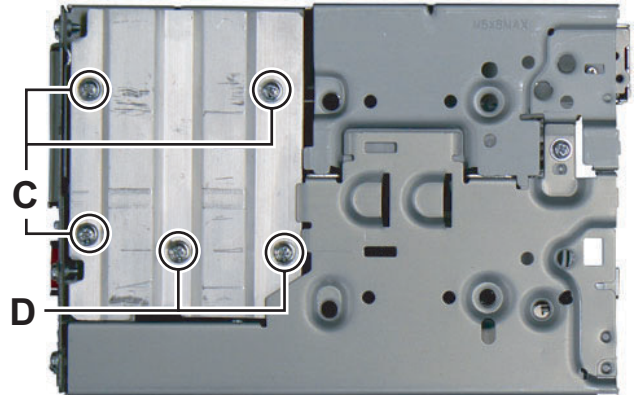

Fig.3
3.1.2 Removing the Heat sink (See Fig.3)